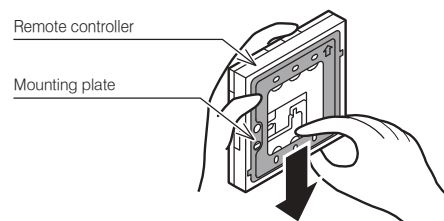

Figure 7-1: Removing the mounting plate
1. Slide the mounting plate downward to remove from the remote controller (refer to Figure 7-1).